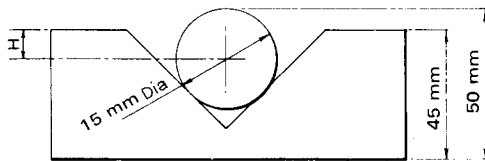

Fig. 1.26
**Example.** Fig. 1.26 shows a bar resting in a vee block. Calculate the dimension  $H$ .